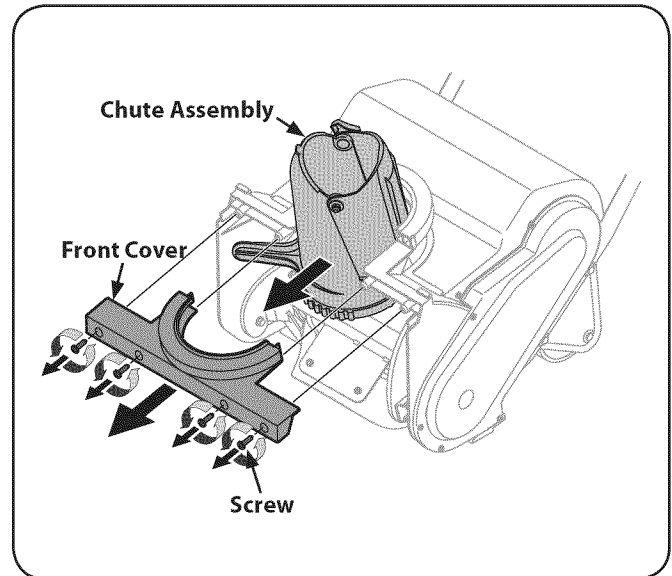

Figure 3-6
1. Remove the four screws securing the front cover to the auger housing. Remove the front cover and the chute. See Fig. 3-6.